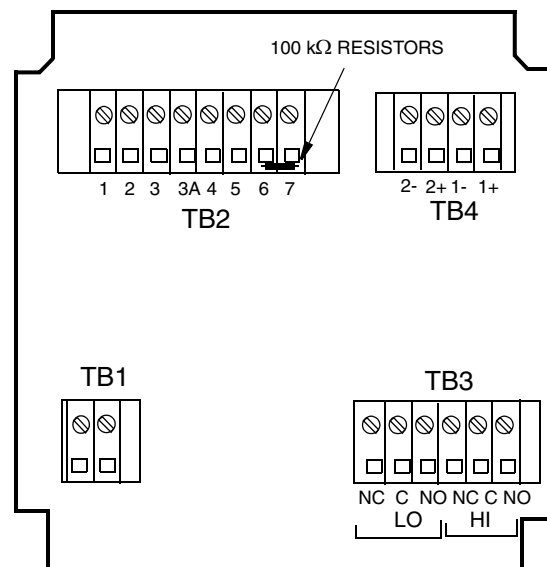

Figure 17. Thermistor Temperature Simulation (Metal Enclosure Shown)
2. Connect the precision 100 k Ω resistor between the sensor terminals 6 and 7. See Figure 17.